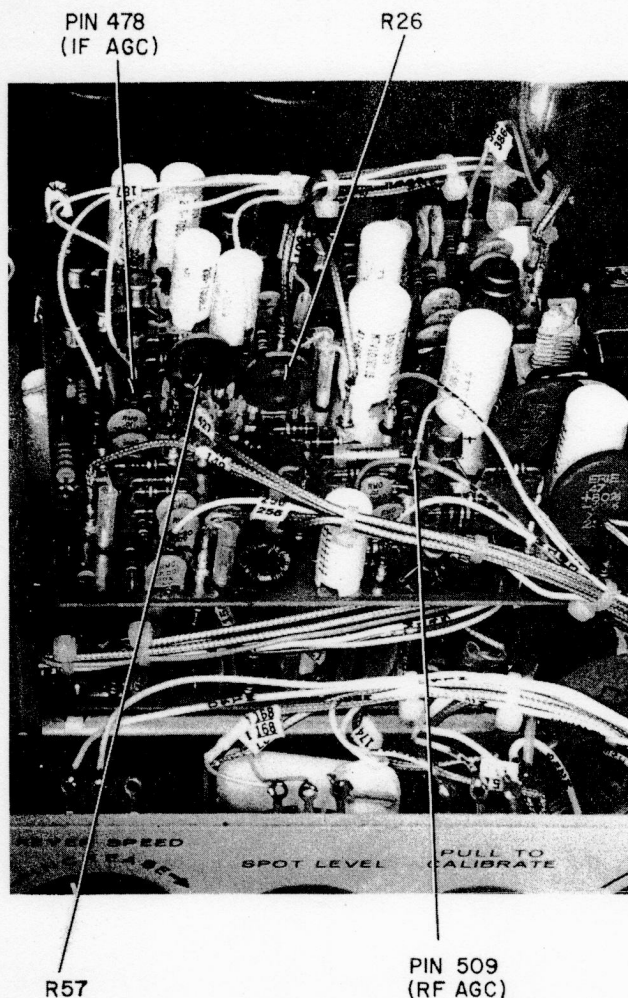

Figure 5-6. Location of AGC and "S" Meter Calibration Adjustments on AGC Detector Board
5. Adjust AGC Detector board resistor R26 (see Figure 5-6) for a voltage of +2.75 to +3.0 VDC measured at AGC Detector board pin 478 and -0.15 to -0.9 VDC measured on the AGC Detector board pin 509 (see Figure 5-6).
3. Adjust AGC Detector board resistor R57 (see Figure 5-6) for an "S" meter indication of "S-9."